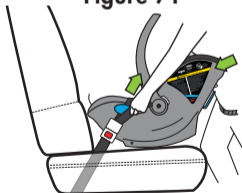

Figure 72
- Use your body to push and wiggle the Carrier into the vehicle seat back and pull free end of lap-only belt to remove all slack as shown in **Figure 72**.